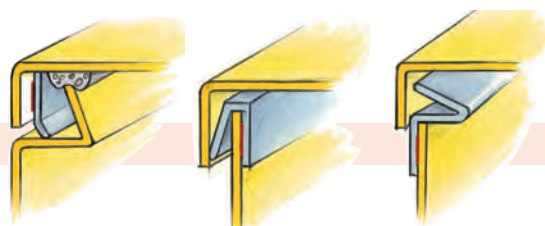

Figure 42: Solutions for medium size constructions
- 42 Small construction:** (about 200 x 200mm) multi-shield gasket, consisting of metal wire from top to bottom though a soft silicone rubber with a thickness of 2-3mm are suitable. (Fig. 42)